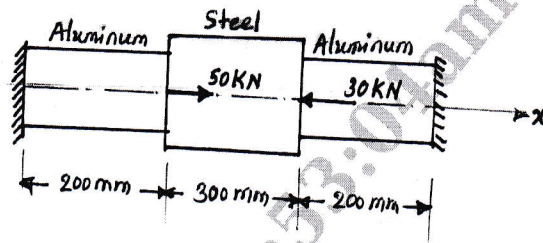

Fig Q4(c)
- c. An axial bar subjected to force as shown in Fig Q4(c). Determine nodal displacement, stress in each material and reaction forces.